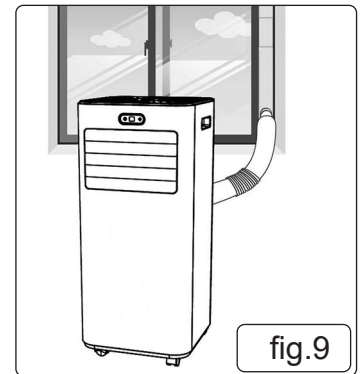

fig.9
- 5.4.3. Place the appliance near to a suitable electrical power outlet and adjust the flexible exhaust hose to suit, avoiding any sharp bends to the hose (fig.9).
- 5.4.4. Adjust the louvre panel (fig.1 #2) to suit (fig.9).